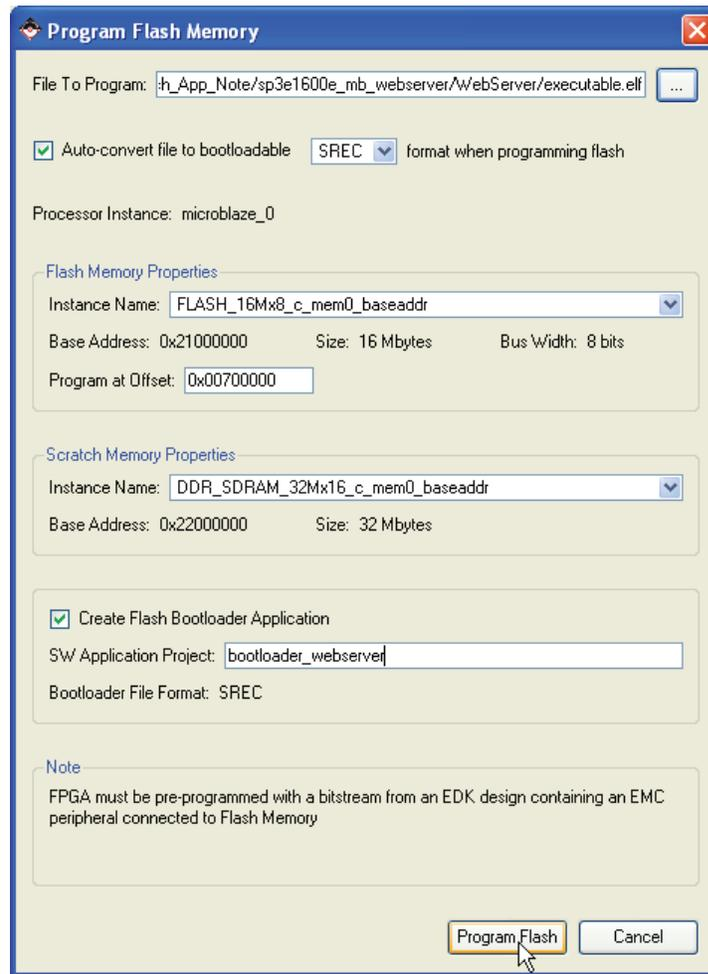

Figure 11: Program Flash Memory Dialog Box for the Web Server ELF
- In the Program Flash Memory dialog box, choose the file to program to be `/WebServer/executable.elf` under the project root directory. Check the *Auto-convert file to bootloadable SREC format when programming flash* check box. Change the program offset to the desired value, allowing enough room for the MCS file, which will be programmed down from `0x00FFFFFF`. The provided example files use an offset of `0x00700000`. A bootloader is created by clicking the *Create Flash Bootloader Application* check box in the Program Flash Memory dialog box. The Program Flash Memory settings are shown in Figure 11.